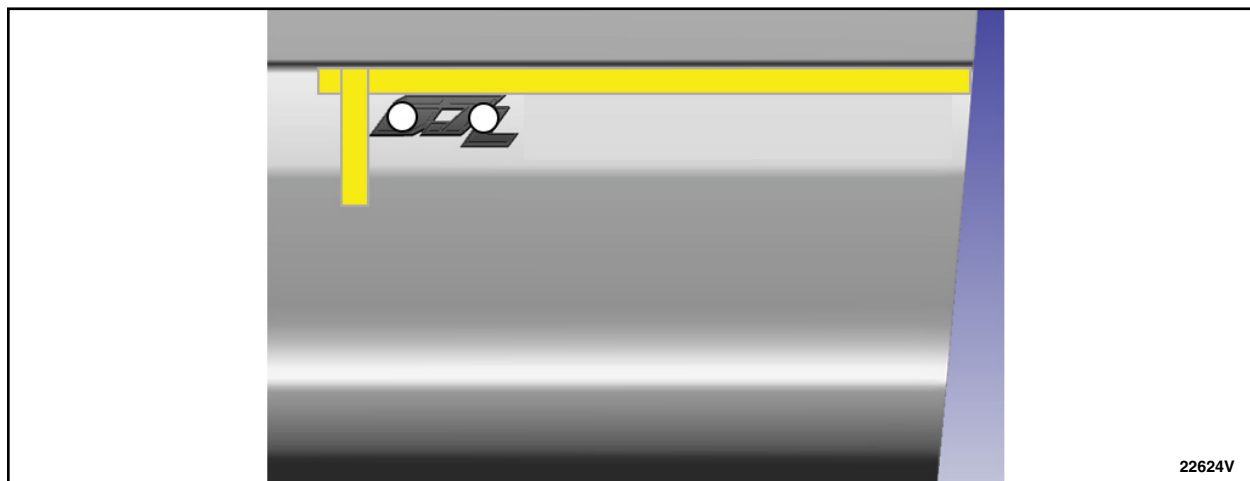

FIGURE 9
33. Remove the tape liner from the back of the badge and install to the door using the locating tape to properly align the badge. See Figure 9.
34. Using medium hand pressure, press for 3 seconds at a minimum of 2 separate locations along the length of the badge until the tape is fully adhered. See Figure 9.